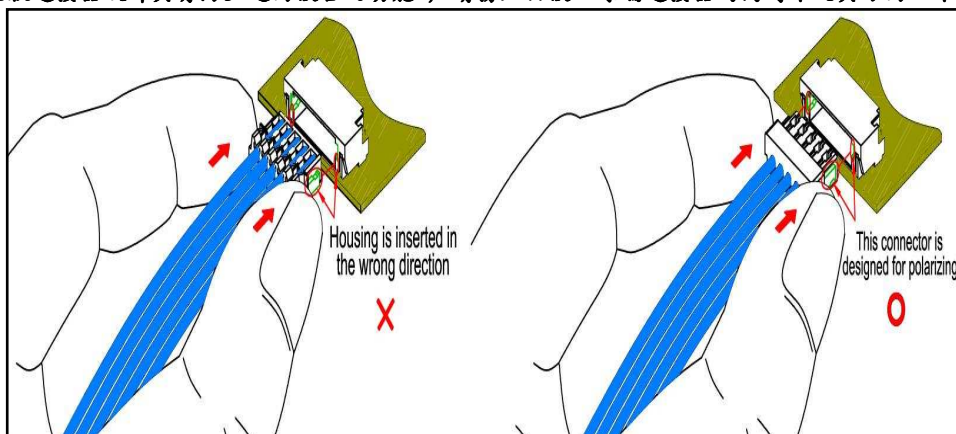

figure 4.1.
4.1 This connector is designed for polarizing. Please be careful on the direction of the housing insertion. (see figure 4.1)